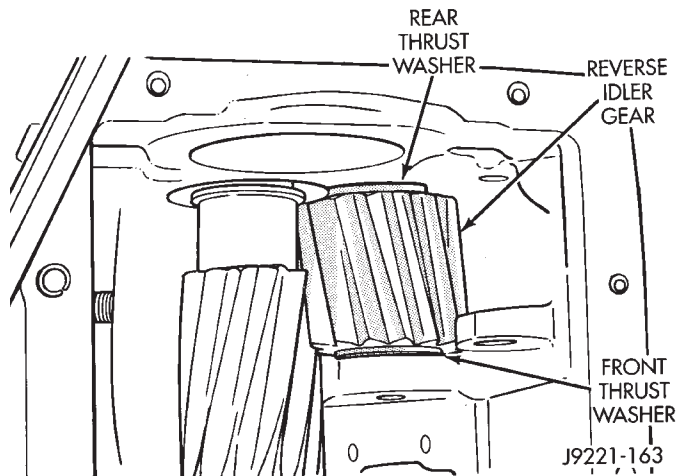

Fig. 82 Idler Gear And Thrust Washer Installation
(7) Install reverse idler gear in case (Fig. 82).
(8) Install idler gear rear thrust washer between idler gear and case boss (Fig. 82).